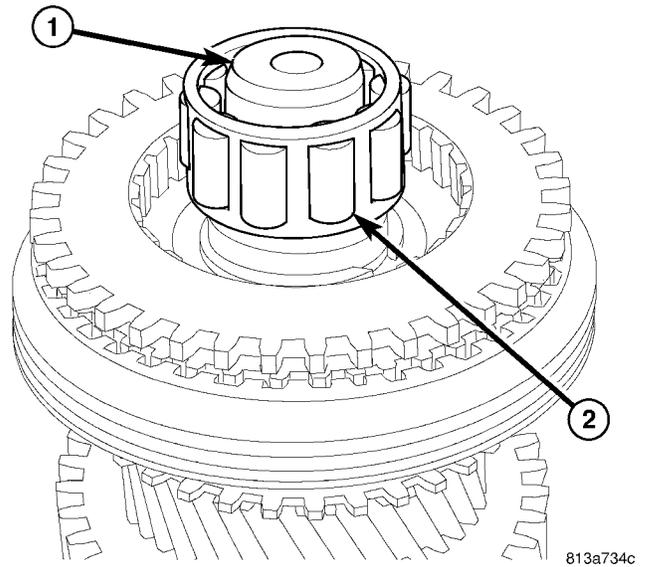

Fig. 16 INPUT SHAFT ROLLER BEARING
(10) Remove input shaft (1) (Fig. 16) roller bearing (2).